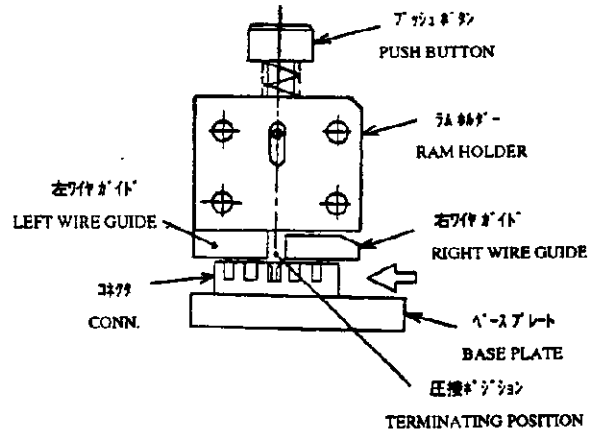

Fig. 3
- (2) コネクタの圧接したいポジションを左ワイヤガイドと右ワイヤガイドの中央へ移動させます。(Fig.3)
- (2) Slide the connector to the position where the contact position you wish to terminate, is located just under the center of Left Wire Guide and Right Wire Guide. (Fig.3)